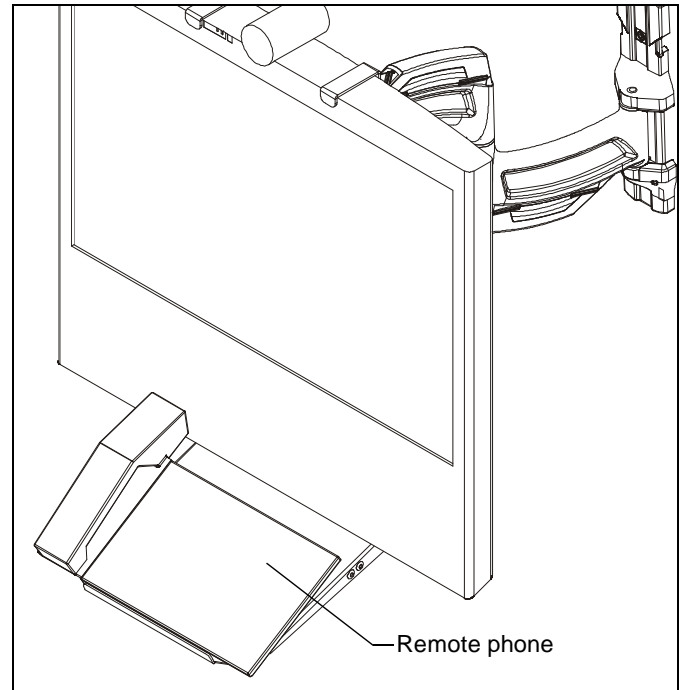

Figure 7
12. Remove paper from hook and loop squares and place remote phone on shelf assembly, pressing it against the hook and loop squares. (See Figure 7)